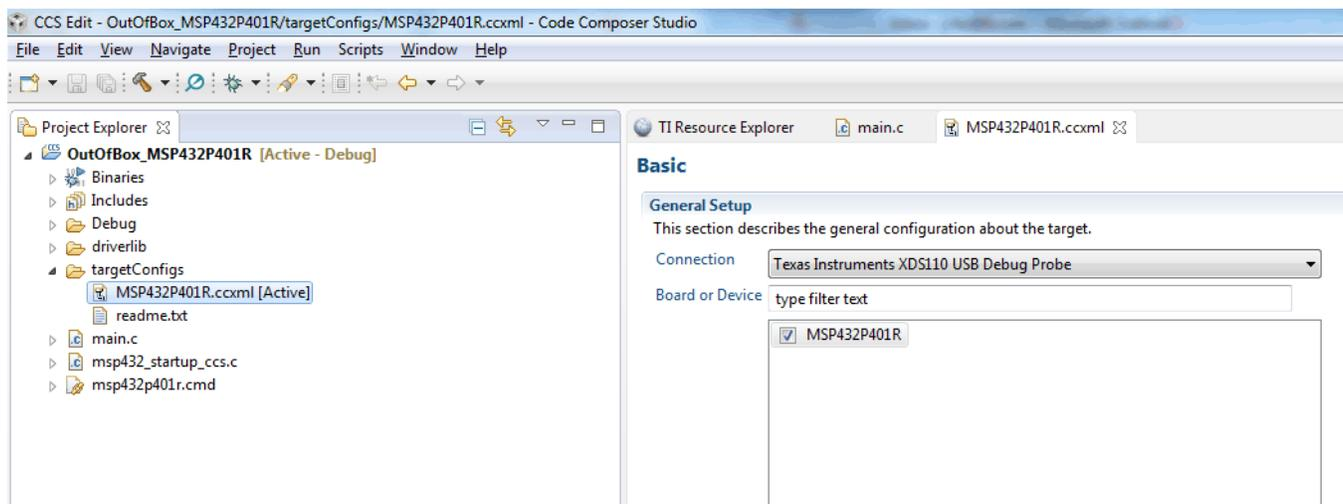

Figure 4. Target Configuration File for MSP432P401R
1. Expand the project in *Project Explorer*, and open *MSP432P401R.ccxml* in the *targetConfigs* folder (see Figure 4).